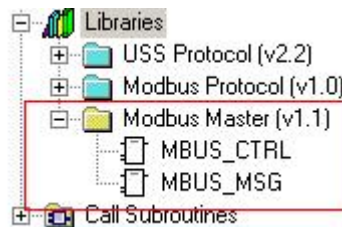

Figure F3-1 MODBUS Application Library
Step 1: Find the library that supports MODBUS communication in the PLC. As shown in Figure F3-1: